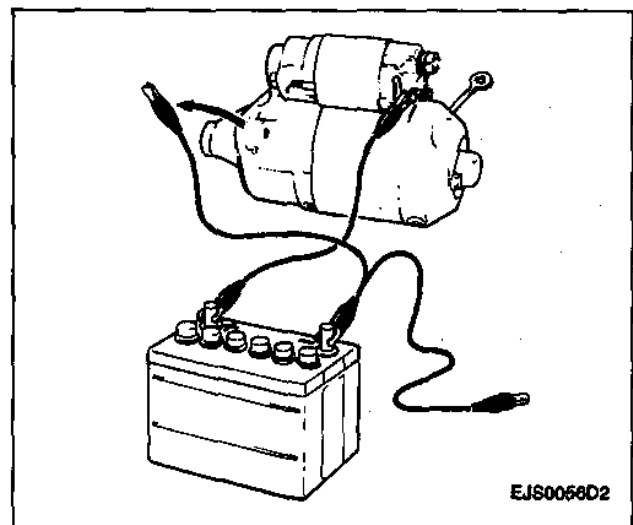

Figure 5—Pinion Return Test
- Negative (-) lead from starter motor assembly (Figure 5).